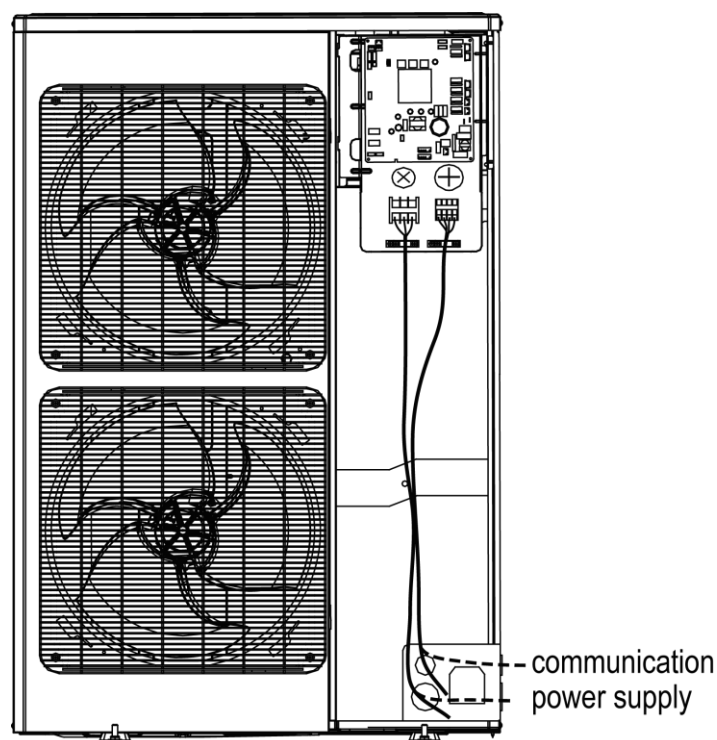

Fig. 29 Engineering Wiring View of GMV-36WL/A-T(U), GMV-48WL/A-T(U) and GMV-60WL/A-T(U)
- (1) Please refer Fig. 29 for engineering wiring. If there is the hole for cable tie in wiring route, please fix the wire with cable tie. Connect the power cord and communication cable to the corresponding terminal board and grounding screw according to the wiring diagram.
- (2) Please be noted that engineering wiring cannot touch the pipe and appliance.
- (3) This figure is only applicable for engineering wiring reference of power supply and communication cable. If there are differences between the figure structure and actual unit, please refer to the actual unit.
- (4) For engineering wiring, please refer to the wiring diagram provided with the unit.